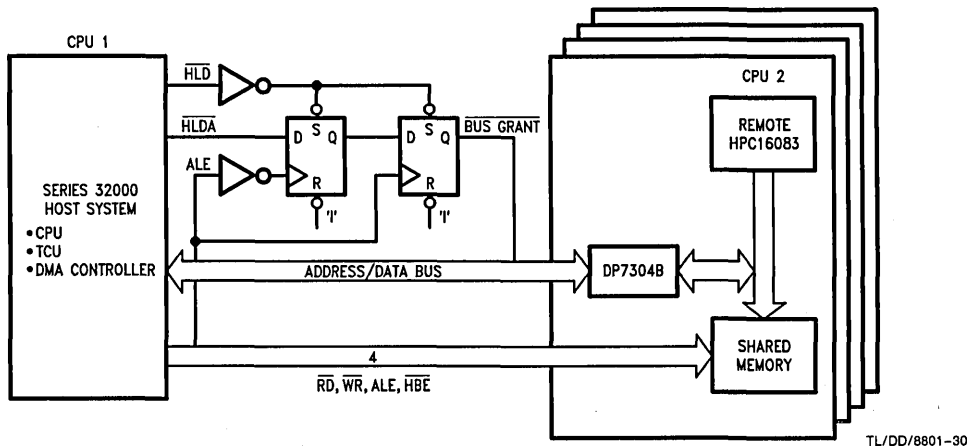

FIGURE 24. Shared Memory Application: HPC16083 Interface to Series 32000 System
*FIGURE 24* illustrates an application of the shared memory interface between the HPC16083 and a Series 32000 system. To insure proper operation, the interface logic shown is recommended as the means for enabling and disabling the user's bus.